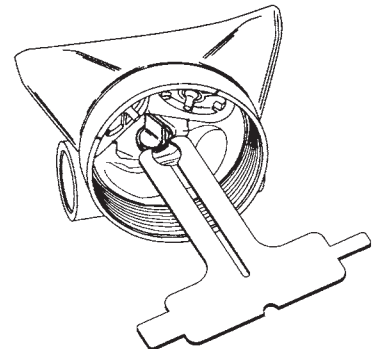

Figure 3
20. Use the Pre-Adjustment Tool (G1001-68) to press the c-clip (item 18) off of the Vane Adjustment Switch (item 21). *Figure 3*.
22. Remove and discard the o-ring (item 22).
23. Grasp the exhaust tee (item 8) and stretch it off of the case.
24. Remove and discard the exhaust valves (item 7).